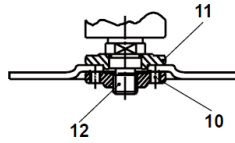

Fig. 15
- Thin wheels (< 4 mm) with curved centre: place the locking flange (10) with protruding side away from the wheel (Fig. 15).